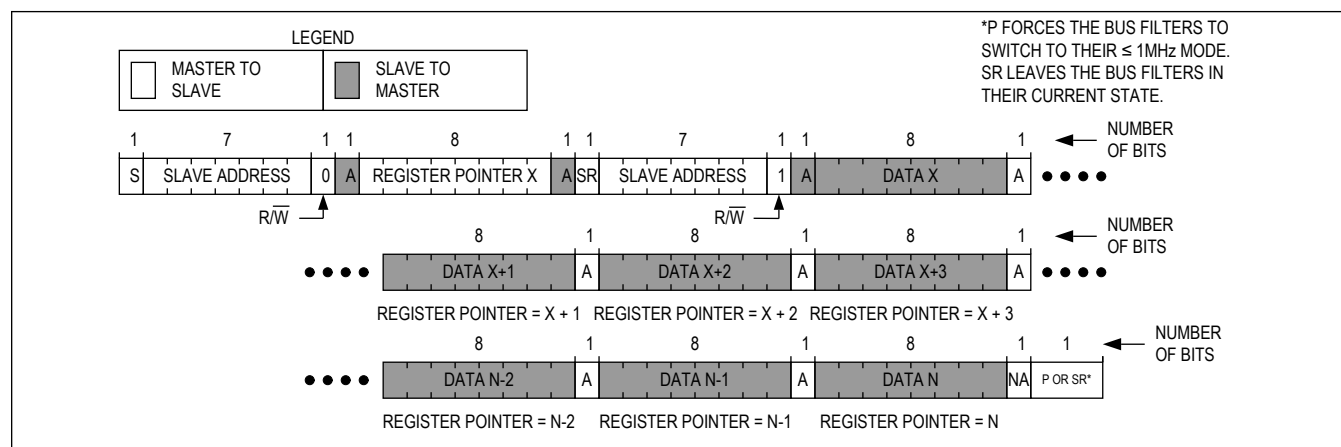

Figure 37. Reading Continuously from Sequential Registers X to N
Figure 37 shows the protocol for reading from sequential registers. This protocol is similar to the read byte protocol except the master issues an acknowledge to signal the slave that it wants more data: when the master has all the data it requires it issues a not acknowledge (nA) and a stop (P) to end the transmission. The continuous read from sequential registers protocol is as follows:
1. The master sends a start command (S).
3. The addressed slave asserts an acknowledge (A) by pulling SDA low.
10. The master issues an acknowledge (A) signaling the slave that it wishes to receive more data.